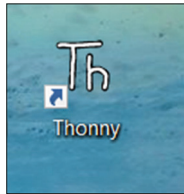

Figure 2.3: Thonny icon on the Desktop.
- You should see an icon on the Desktop (Figure 2.3) of your PC. Double click to start Thonny.